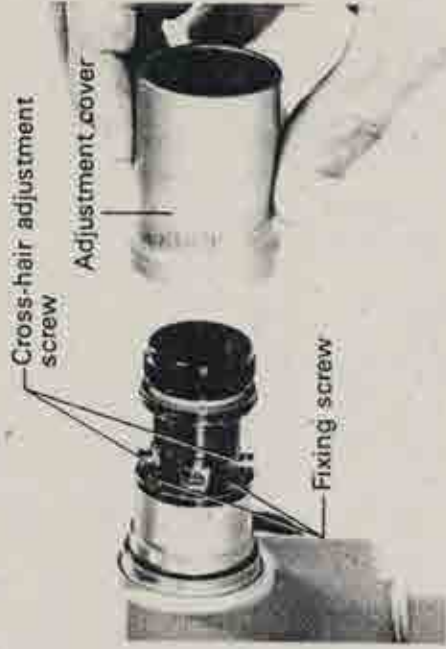

Fig. 17
The four adjustment screws are to be found under the cross-hair adjustment device cover, when it is unscrewed. (See Fig. 17) When shifting the cross-hair reticule glass, first loosen the adjustment screw in the direction in which the horizontal cross-hair line must be shifted and then tighten the adjustment screw, on the opposite side, by an equal amount. Thus, if the bottom adjustment screw is revolved a half turn in the counter-clockwise direction to loosen, then revolve the top adjustment screw by the same half turn in the clockwise direction to tighten, which will leave the tensions of the adjustment screws unchanged.
- (5) If the target mark is displaced from the horizontal cross-hair line as it is moved across the field of view, then adjustment is required in the cross-hair reticule glass.
- (6) Revolve the cross-hair adjustment device cover in the counter-clockwise direction and take it off, which will expose four fixing screws, in addition to four capstan adjustment screws. (See Fig. 17)
- (7) Slightly loosen all four fixing screws, with a screwdriver, and revolve the reticule glass so that the horizontal cross-hair line is correctly located. Re-tighten the fixing screws by the amount that they were loosened.